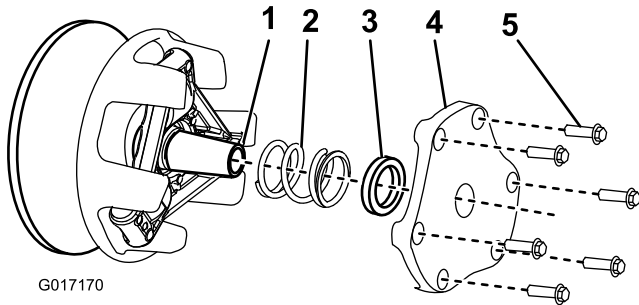

Figure 61
4. Set aside the cover, spacer, and spring (Figure 61).